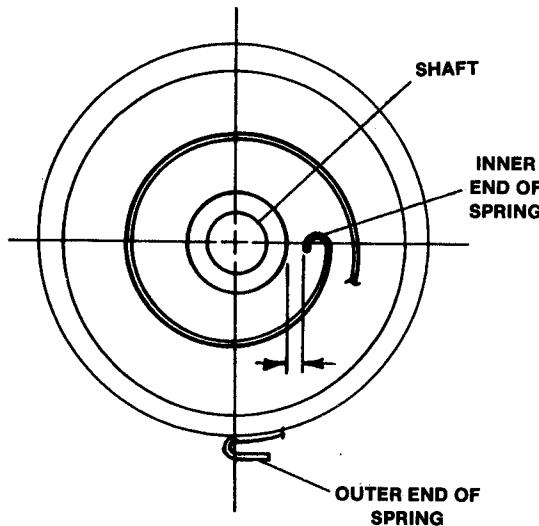

FIGURE 5.5
B. Adjust spring inside starter housing until inner end of spring is positioned about 1/8 inch from shaft as shown in Figure 5.5 (This positions the spring end for easy engagement with reel hook).